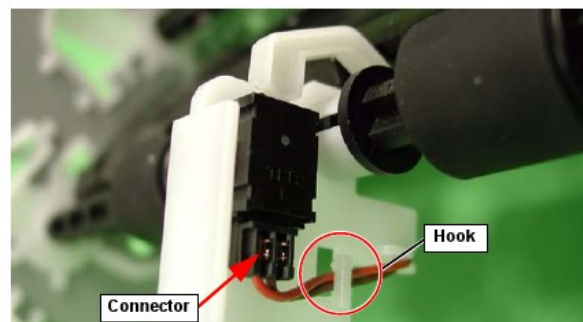

Figure 4-46. PE SENSOR, FRONT Removal 2
3. Free the harness from the hook of the HOLDER, DETECTOR, PE, FRONT. (Refer to Figure 4-46.)
4. Disconnect the connector (Black) from the PE SENSOR, FRONT. (Refer to Figure 4-46.)